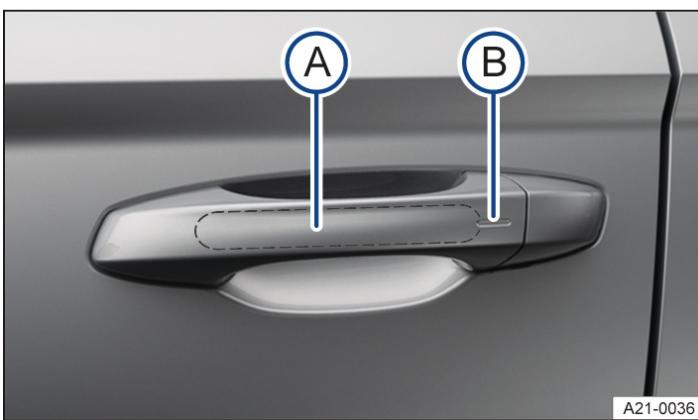

Fig. 2 In the door handle: sensors.
1. Tap sensor → Fig. 2 (A) on the inside of the driver or front passenger door handle.
3. Tap sensor → Fig. 2 (B) on the outside of the driver or front passenger door handle.
2. Then touch the sensor on the outside of the door handle → *Fig. 2*  once within 5 seconds. Do not put your hand around the door handle when doing this.
1. Place a finger on the sensor of the driver's or front passenger door handle → *Fig. 2*  for a few seconds.